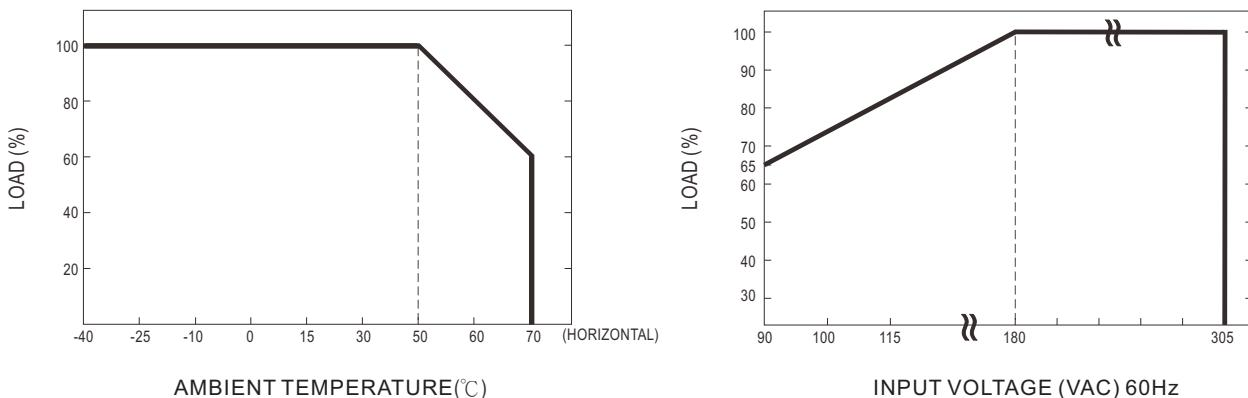

Figure 5-1 Output derating curves
- ◎ When HEP-1000 is operating at a lower AC input voltage, it will de-rate its output current automatically to protect itself, shown as Figure 5-1.